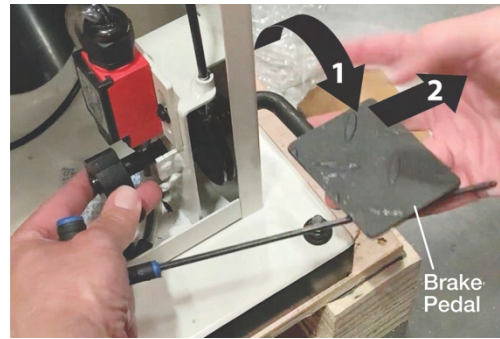
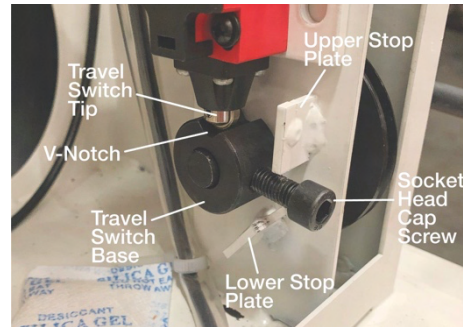

Figure 5-32
Figure 5-33
3. Rotate the brake pedal to the operational position and slide it away from the base (see Figure 5-32). Make sure the travel switch tip seats in the V-notch of the travel switch base and the socket head cap screw is between the two stop plates (see Figure 5-33).